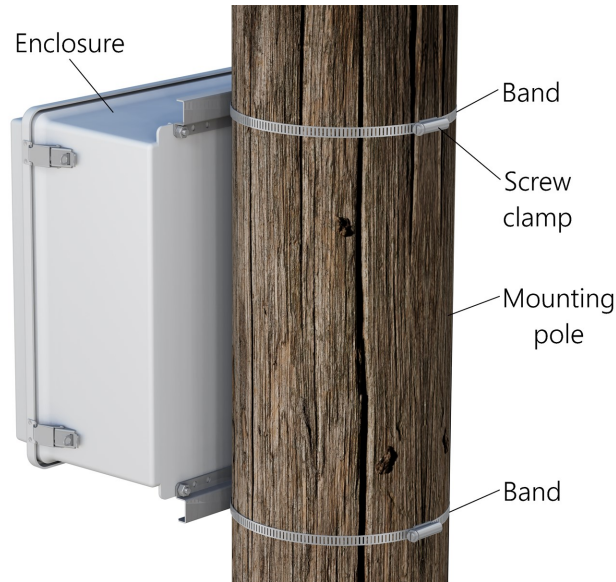

FIGURE 6-20. Securing the enclosure to a pole
5. Insert the tab on the end of the screw threads (FIGURE 6-20 (p. 24)) into the hole at one end of the upper strap.